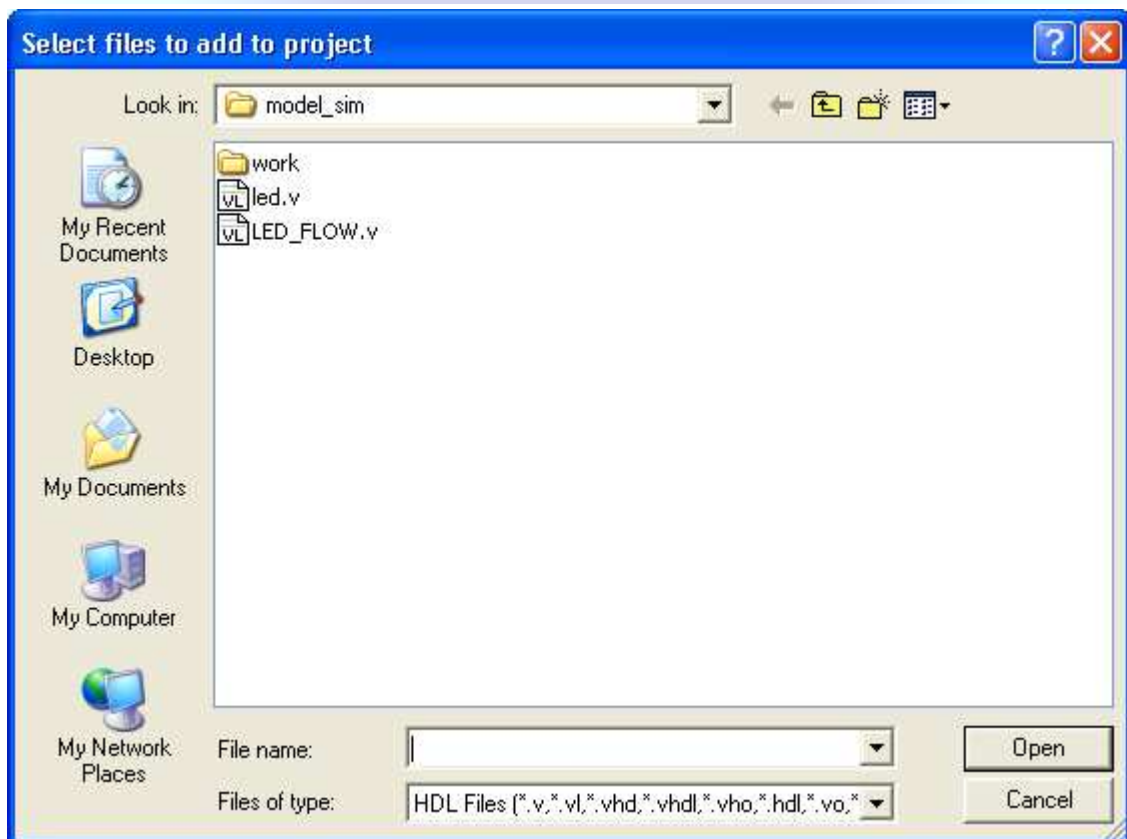

Figure 2.15 Select files to add to project
9. Click **Browse**, select the led.v, shown in Figure 2.15.